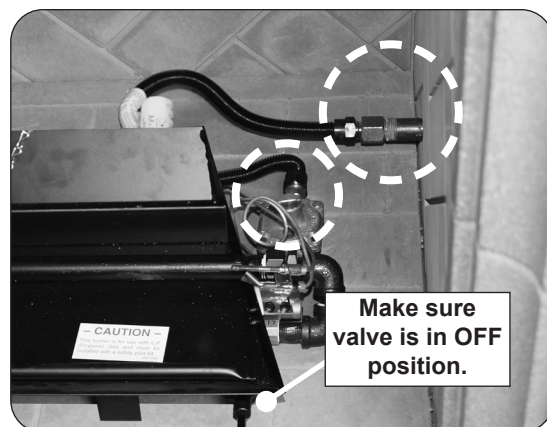

Fig. 15-3 Perform leak test
3. Place the burner system in the fireplace. Center the burner from left to right in the fireplace. (Reference Fig. 15-3 for orientation.)
6. **LEAK TEST:** Make sure the burner valve is in the OFF position. Turn on the fireplace gas supply, and test at all connections for leaks using the appropriate soapy water solution. See Fig. 15-3. If bubbles appear, a leak is present. Turn off the gas and tighten at all connections. Repeat until no leaks are present. If a leak persists, turn off the gas supply and contact the local gas company or dealer. NEVER USE A FLAME TO CHECK FOR LEAKS.